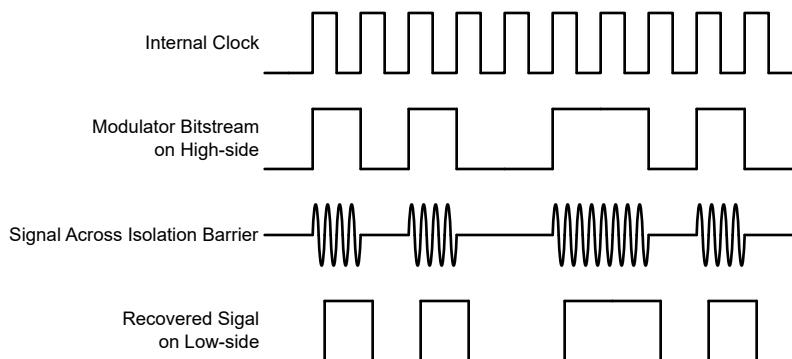

Figure 7-3. OOK-Based Modulation Scheme
As shown in Figure 7-3, the AMC0386-Q1 uses an on-off keying (OOK) modulation scheme to transmit the modulator output bitstream across the SiO_2 -based isolation barrier. The transmit driver (TX) is illustrated in the *Functional Block Diagram*. TX transmits an internally generated, high-frequency carrier across the isolation barrier to represent a digital one. However, TX does not send a signal to represent a digital zero. The nominal frequency of the carrier used inside the AMC0386-Q1 is 480MHz.